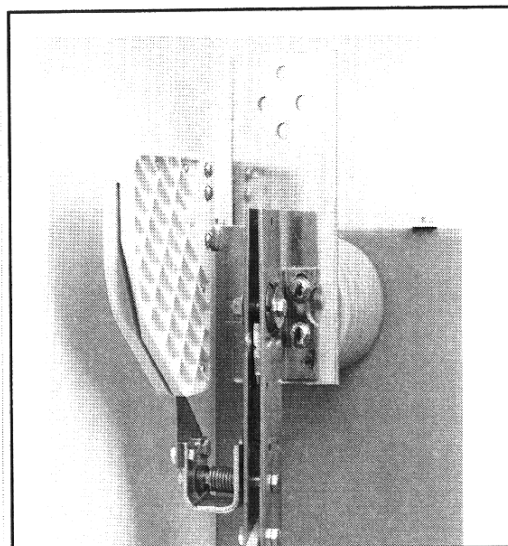

Fig. 12 Main Blade Spacer Adjustment
- d. With the switch closed, the upper spacers of the main blades should rest  $3/16'' + 1/16''$  above the bottom of the depression of the stationary break jaw (see Fig. 12).
Close the switch. Check that the upper spacers of the main blades are  $3/16" + 1/16"$  above the tops of the break jaws. (See Fig. 12) If they are not, loosen the bolts holding the break jaw. Adjust as necessary. When setting is correct, tighten bolts to proper torque value.